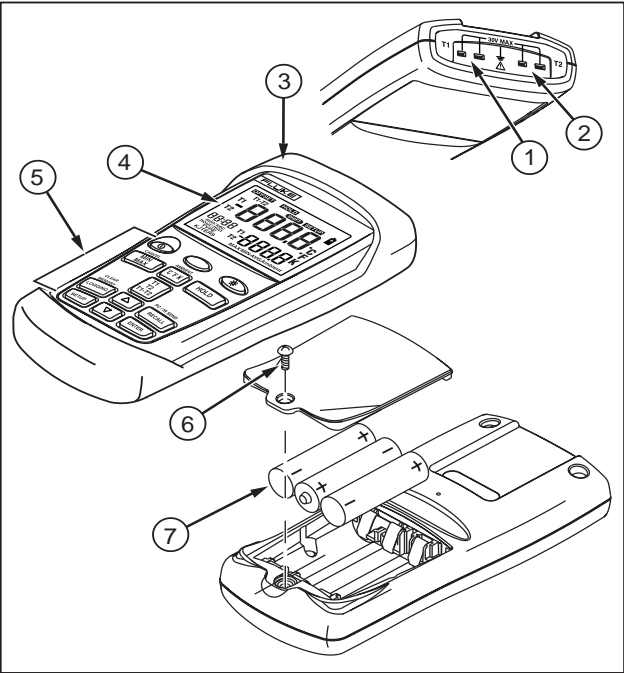

Figure 1. Components
- Figure 1 and Table 3 describe the components.